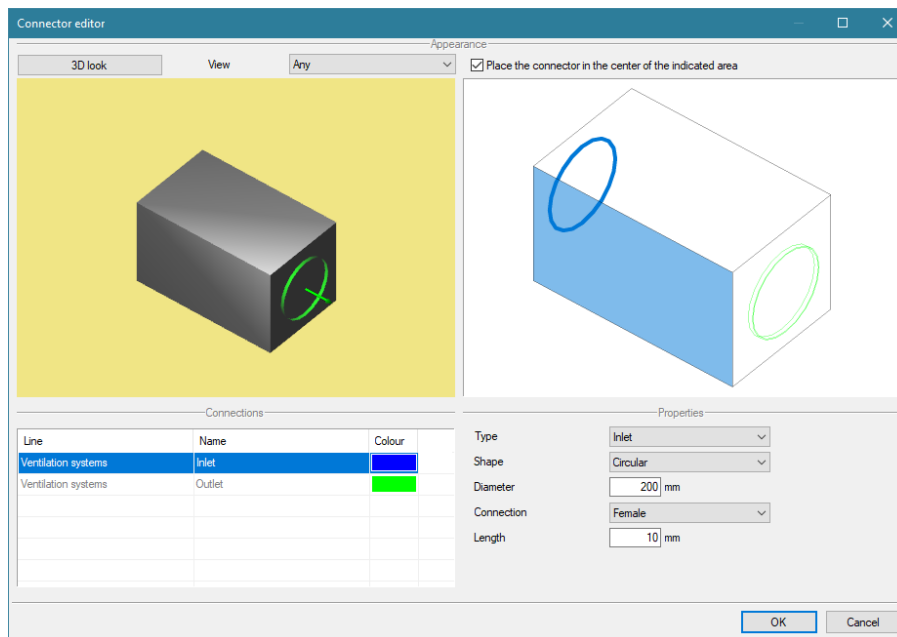

Fig. 23 Defining the connector location in the Connector editor window
3. Then, move the cursor to the location area of the new connector (it will be highlighted in blue) and click it (Fig. 23). If the *Place the connector in the centre of the indicated area* option is selected at the top of the window, the connector will be defined in the middle. Otherwise, the centre of the connector will be located at the point indicated by the cursor. The defined location can be freely changed by indicating the next points in the indicated areas.